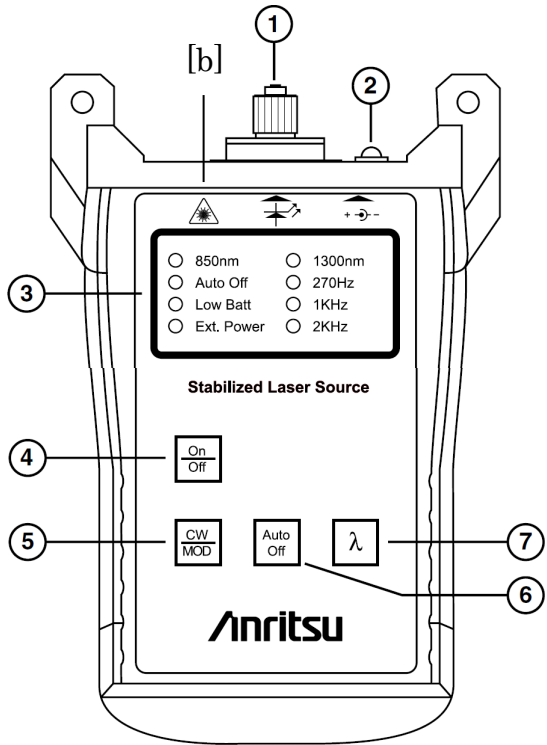

Figure 3 CMA5 Series Light Source Operating Controls
**b. Hazard Symbol:** It is located on the front panel that identifies the Class 1 laser port (See Figure 3)
| 5L83                                                           | 1     | 0.66                            | CW                               | 850                      | 23.0                        | Figure 3 ①     |
| 5L83                                                           | 1     | 1.41                            | CW                               | 1300                     | 23.0                        | Figure 3 ①     |
| 5L35                                                           | 1     | 1.41                            | CW                               | 1310                     | 11.5                        | Figure 3 ①     |
| 5L35                                                           | 1     | 1.41                            | CW                               | 1550                     | 11.5                        | Figure 3 ①     |